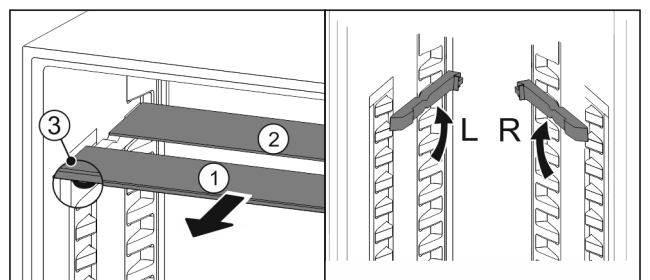

Fig. 112
- ▶ Pull the glass panels out *Fig. 112 (1)* from the front, one at a time.
- ▶ The glass panel *Fig. 112 (1)* and trim strip are at the front.
- ▶ The stops *Fig. 112 (3)* point down.